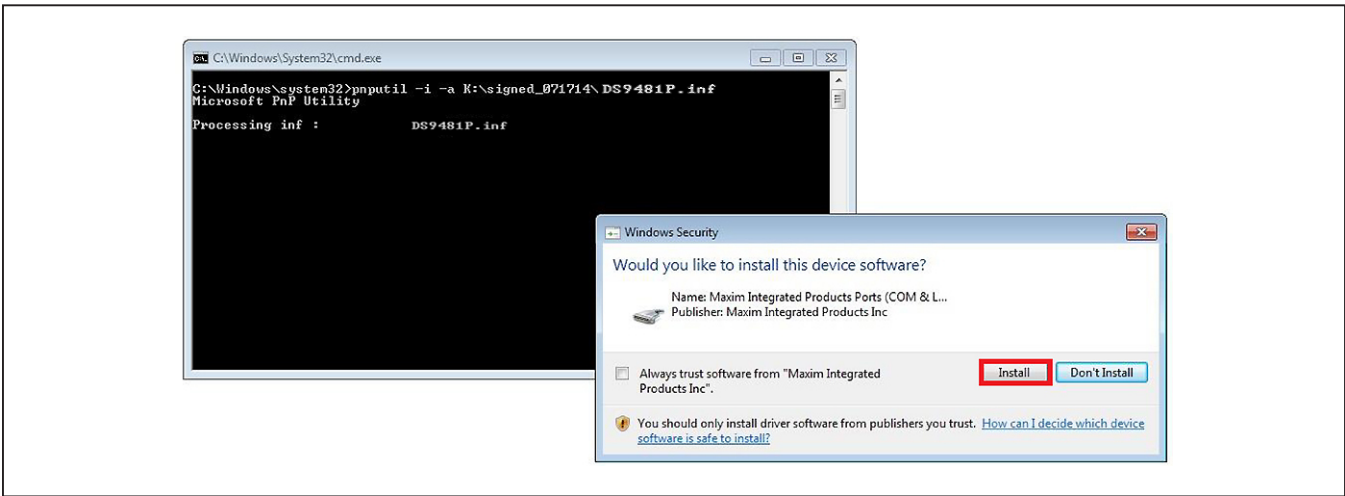

Figure 6. Device Driver (Install Device Software)
- 7) A command window opens with a prompt asking to install the device driver (Figure 6). Click **Install**.